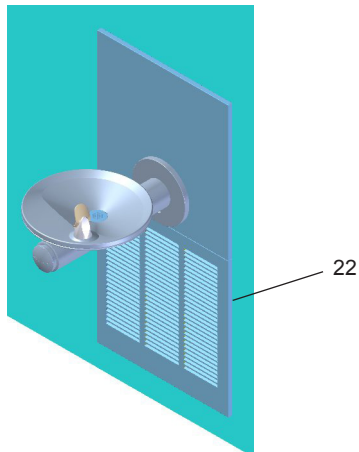

**Figure 5 - Upper Panel Installation**
5. **Hang** the upper panel on the mounting frame hanger. Be sure that the panel is engaged with hanger at the top of frame before releasing it. Align holes in the panel with holes in the mounting frame. Install two (2) #10-24 x 5/8" (16mm) screws (Item 11 - Figure 5) in holes and tighten securely.